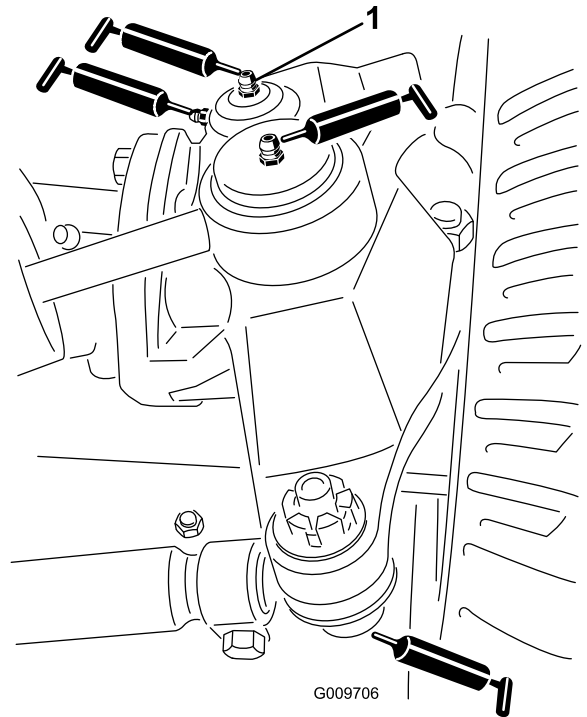

Figure 60
- Steering-cylinder ball joints (2) as shown in Figure 60
- Tie-rod ball joints (2) as shown in Figure 60
- Kingpin bushings (2) as shown in Figure 60